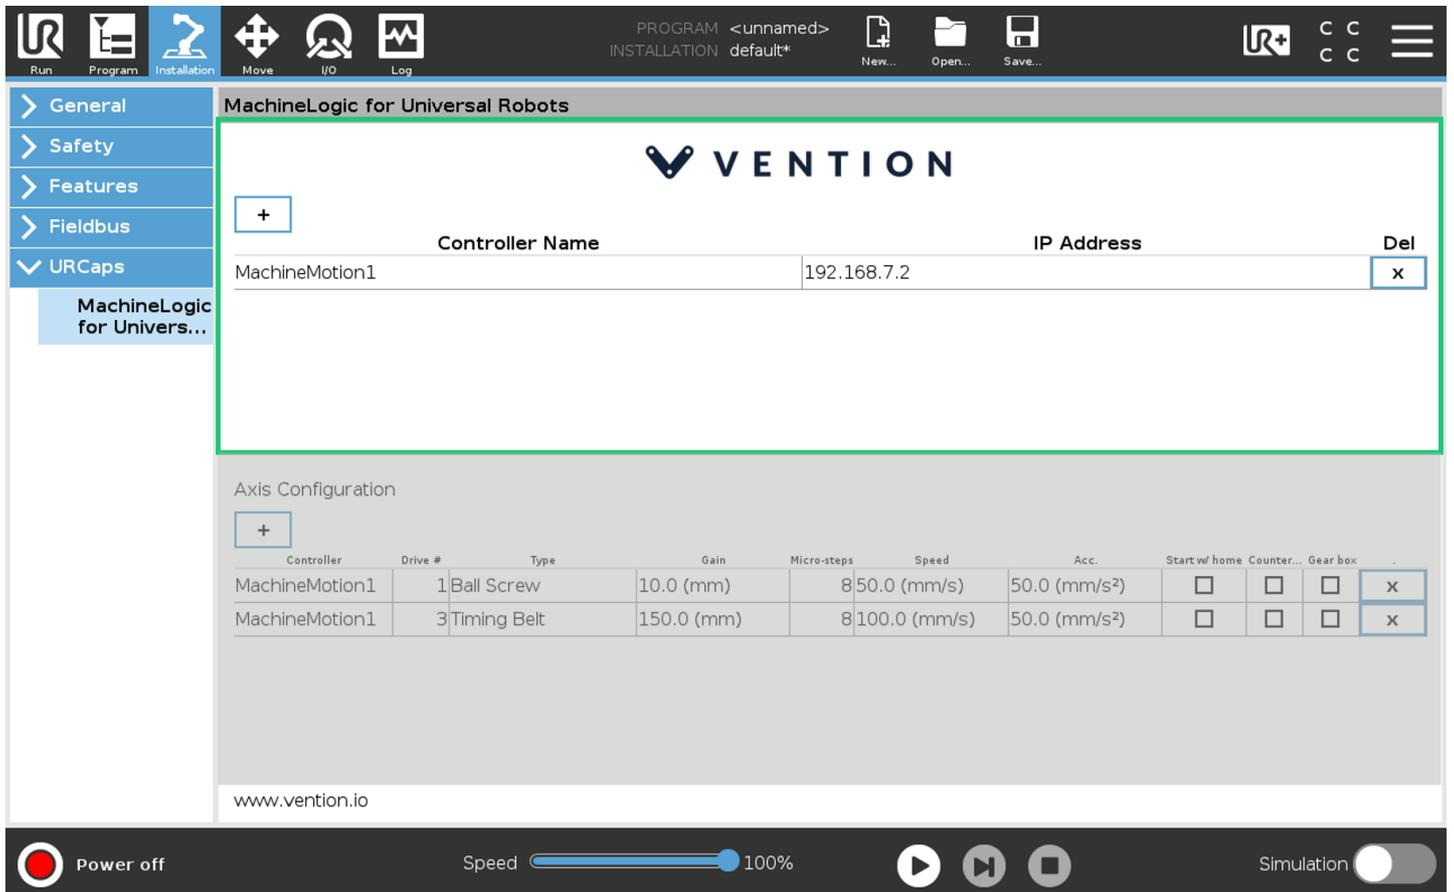

Figure 16: For the DHCP networking method, the IP address needs to be set to 192.168.7.2
**Important:** If you are using the DHCP networking approach, you have to overwrite the IP address value with **192.168.7.2** (see Figure 16). To overwrite, click on the IP address field and use the keypad to enter the new IP address.